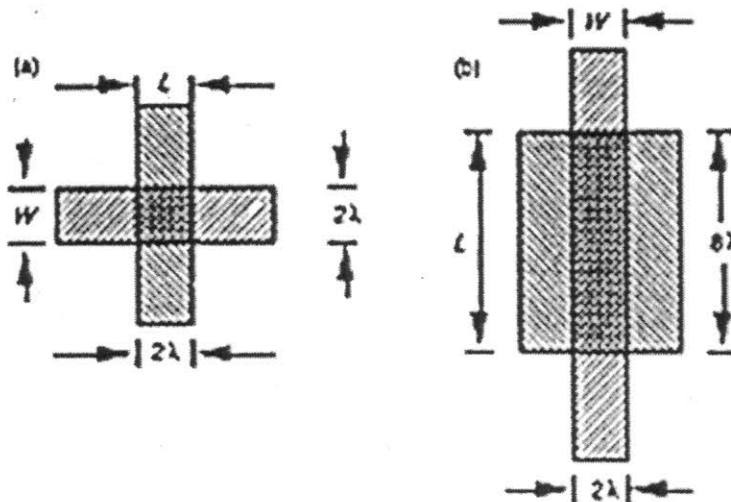

Fig. Q 5(a)
5.	a) With the help of sheet resistance model of a MOS transistor, calculate the channel resistance of MOS transistor of size as shown in Fig. Q 5(a).